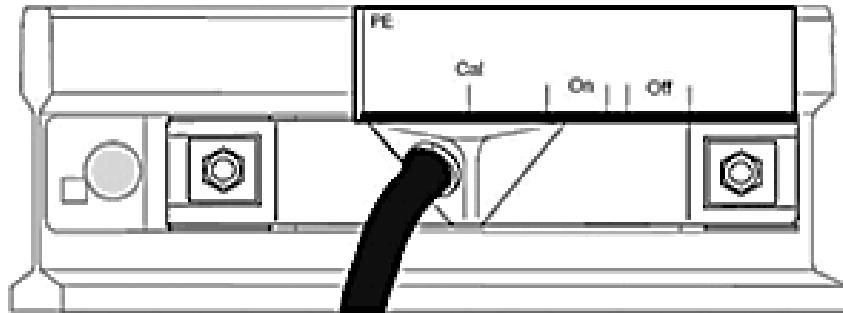

Figure 3 – Placement of Gauge on Rail for Calibration
2. Within 15-20 seconds after restoring power, place the adjustment gauge on the wheel detector and in contact with the rail head. With the “Cal” marking on the adjustment gauge over the centre marking on the wheel detector housing. (As shown in Figure 3). Observe that the follower relay operates.